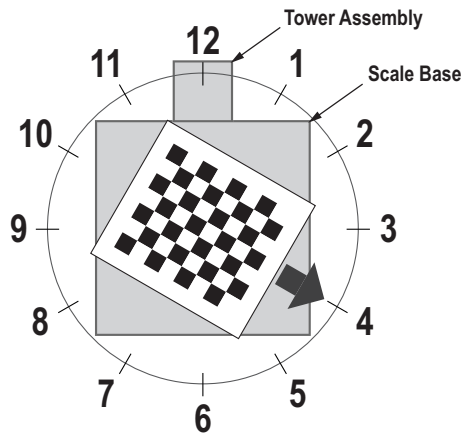

Figure 5-6. Rotate to 4 o'clock
- Align calibration object so the cross hairs are centered. Rotate the calibration object to 4 o'clock with the tower assembly being at 12 o'clock (Figure 5-6).